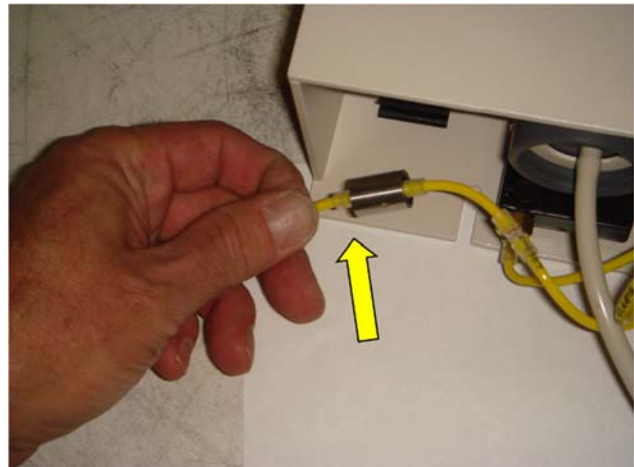

Fig. 3
5. Pull regulator out of plastic clip. (Fig. 3)